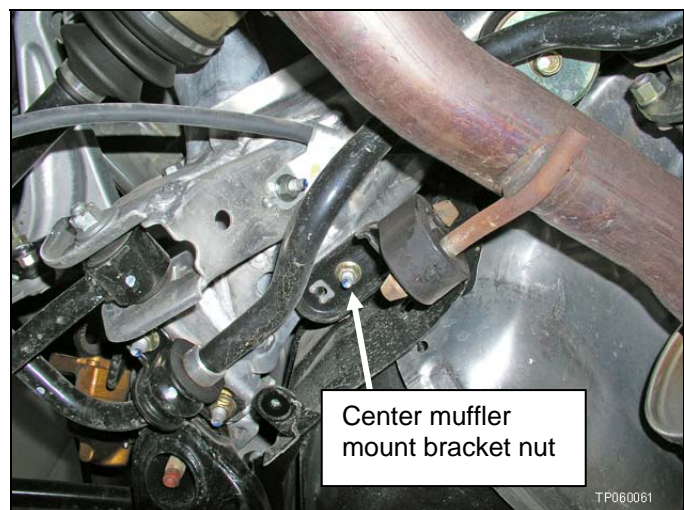

Figure 9
12. Remove the nut that holds the center muffler mount bracket (see Figure 9).